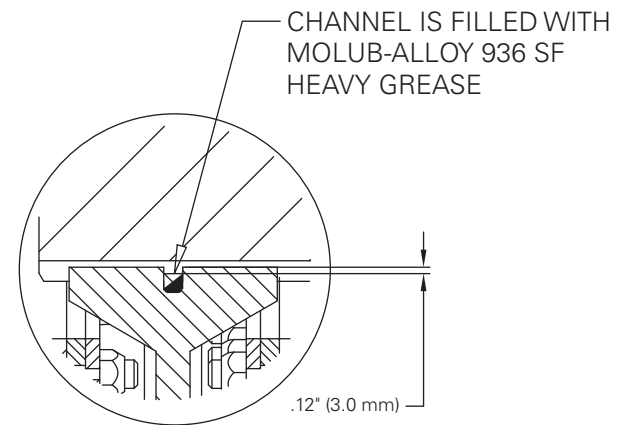

Figure 3
2.2.6 Pre-fill the grease channel in the friction disc assembly splines (if applicable) with MOLUB-ALLOY® 936 SF Heavy or equivalent grease, as shown on Figure 3.